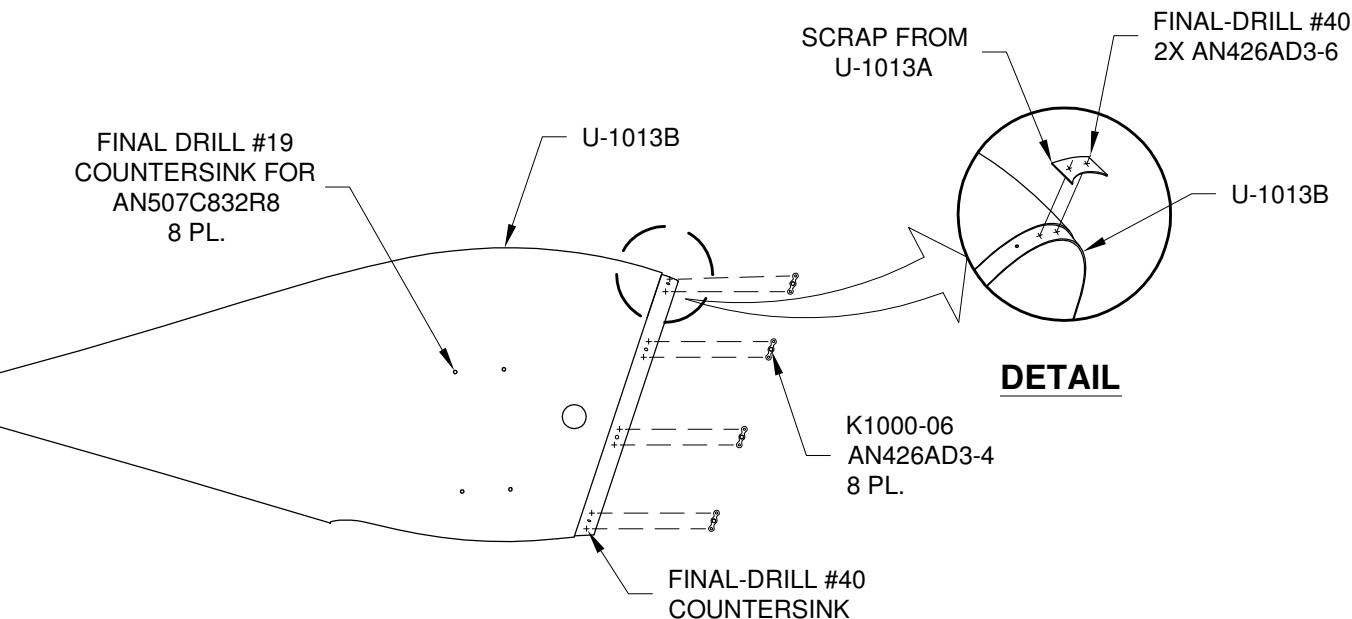
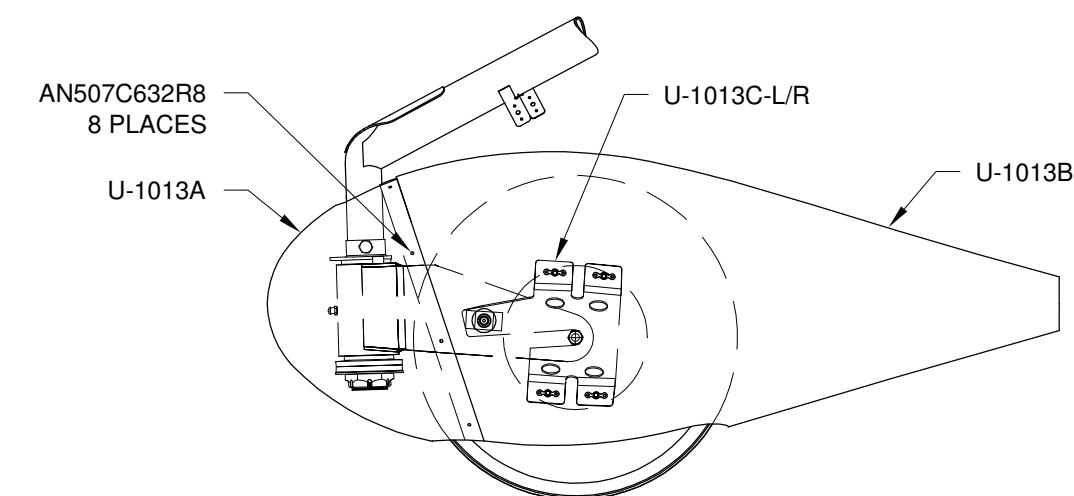

FIGURE 2: RIVETING NUTPLATES TO THE WHEEL FAIRING REAR
FIGURE 4: FINAL FAIRING ATTACHMENT
Step 2: Cut to fit the piece of fiberglass scrap created earlier to serve as a filler and position it on the wheel fairing rear directly behind the WD-1017 Nose Gear Leg. Final-Drill as shown in Figure 2, countersink and rivet it to the wheel fairing rear as shown in the Detail.
Step 4: Slide the U-1013B Wheel Fairing Rear onto the axle at the gap in the washer stack-up. Bolt it to the WD-1030 Nose Fork at the U-1013C-L/R Nose Wheel - Fairing Brackets as shown in Figure 4 using the hardware called out on Page 48-17 Figure 2. Attach the U-1013A Wheel Fairing Front to the wheel fairing rear as shown.